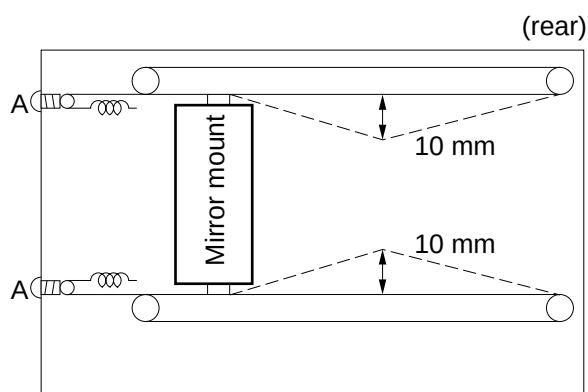

Figure 11-221
- 5) Check the image, and measure the non-image width shown in Figure 11-221.